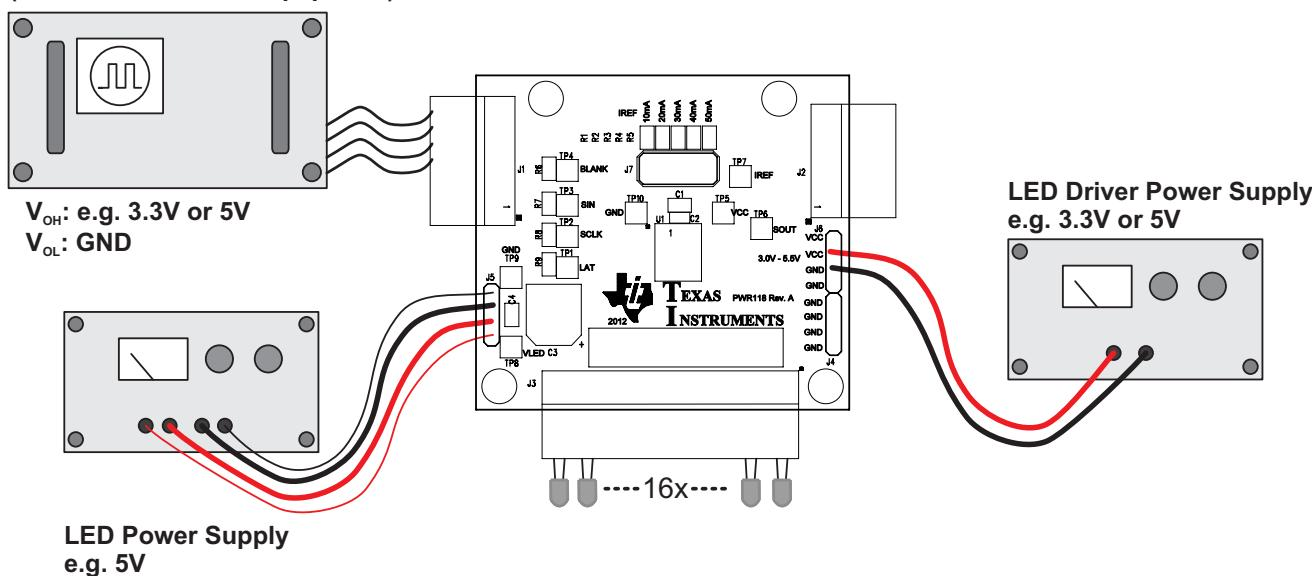

Figure 2. TLC59282 EVM Recommended Test Set-Up
Connect V_{CC} to J6 and V_{LED} to J5 as shown in Figure 2.
Figure 2 shows the basic test set up recommended to evaluate the TLC59282 EVM. Note that although the return for J5 and J6 are the same system ground, the connections should remain separate as shown in Figure 2.
2. Before connecting the DC input sources, V_{CC} and V_{LED} , limit the source currents. Set V_{CC} and V_{LED} to 0 V, initially, and connect as shown in Figure 2.
4. Connect the DC power supplies, V_{CC} and V_{LED} , to the EVM as shown in Figure 2.
5. Connect the pattern generator or MCU to the EVM as shown in Figure 2.